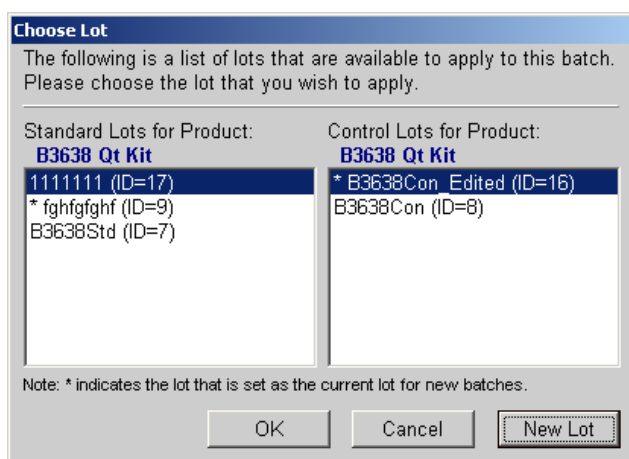
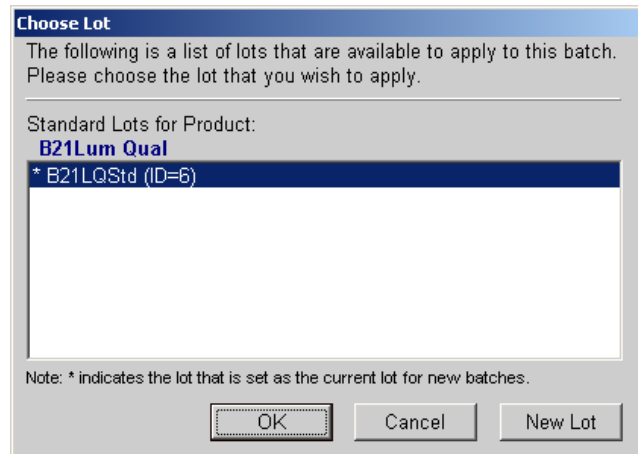

Figure 5-82 Choose Lot Dialog Box—Standard and Control
Figure 5-83 Choose Lot Dialog Box—Standard Only
1. Click **Change Lot (Alt + F8)**, located at the bottom of Analysis window, to display the **Choose Lot** dialog box. See Figure 5-82.
2. The dialog box displays a list of available standard and control lots that you can apply to a batch. Highlight the desired lot and click **OK** to apply the selected lot to the batch opened in data analysis. Figure 5-82 shows standard and control. Figure 5-83 shows standard only.
2. In the **Update Lot Info** dialog box, select **Standard lot** or **Control lot**, then click **Save** to display the **Choose Lot** dialog box. An asterisk identifies the selected lot. See Figure 5-82.